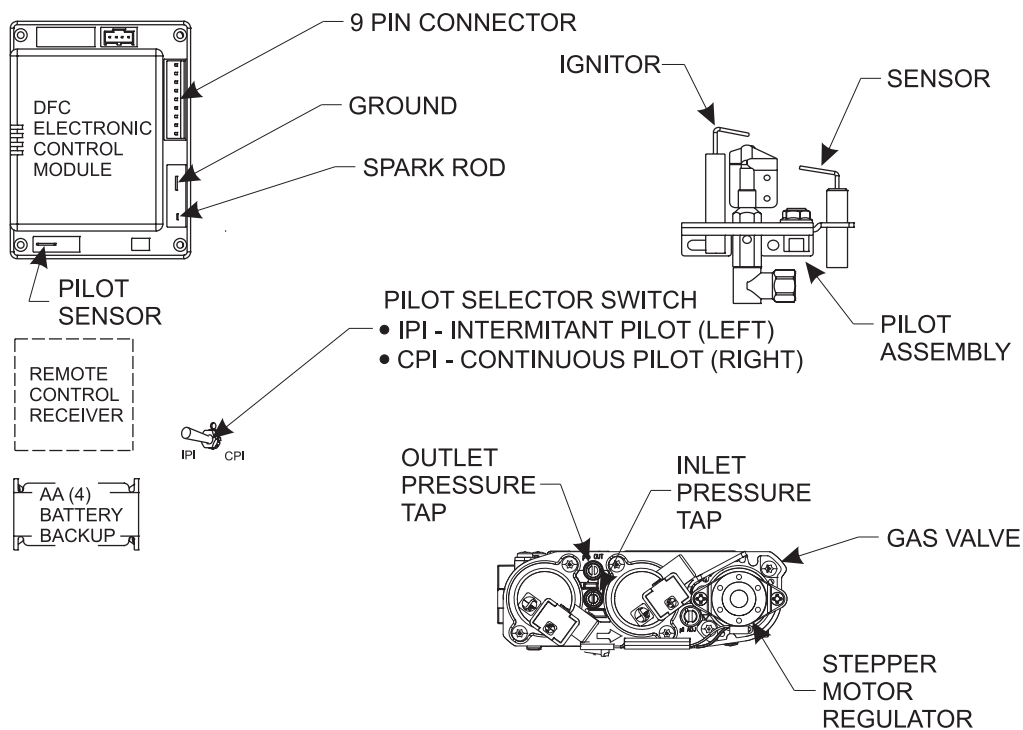

Figure 24
Note: A small toggle switch is located on a bracket that is used to switch from IP (left position) to the CPI (right position). See Figure 24.
3. The gas valve has inlet and outlet pressure taps as shown in Figure 24. Refer to pages 15 - 16 for gas pressure requirements.